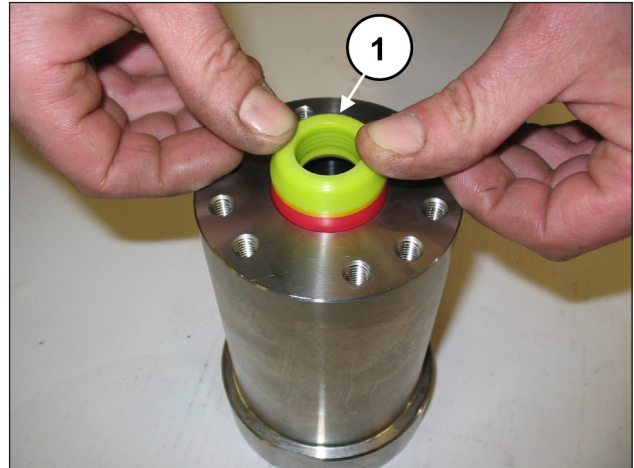
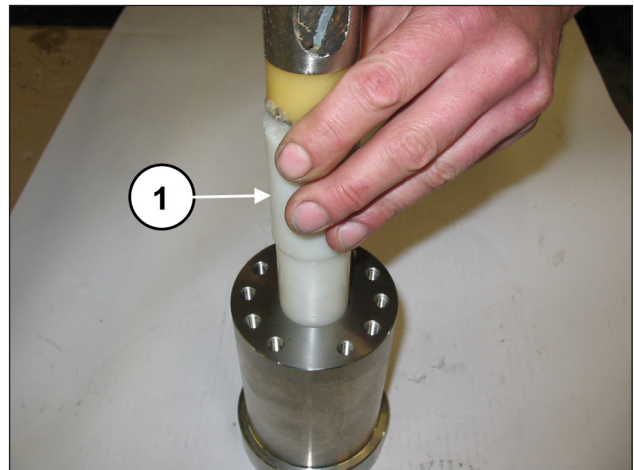
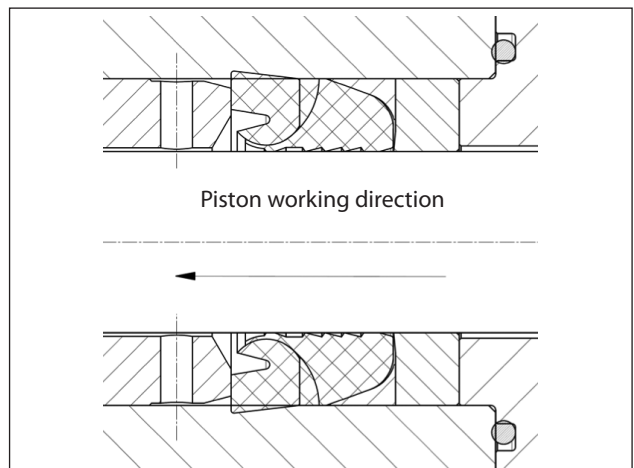

Fig. 132
Fig. 133
Fig. 134
Insert the H.P. pack (high pressure) (pos. ①, Fig. 132); considering the slight interference between the seal and the liner, to avoid damage we advise using the tool (code 27540100 for SK20, SK22 and SK24, code 27540900 for SK26, for SK28 and for SK30) (pos. ①, Fig. 133).
The H.P. seal must be placed in the liner as indicated in Fig. 132 and Fig. 134.